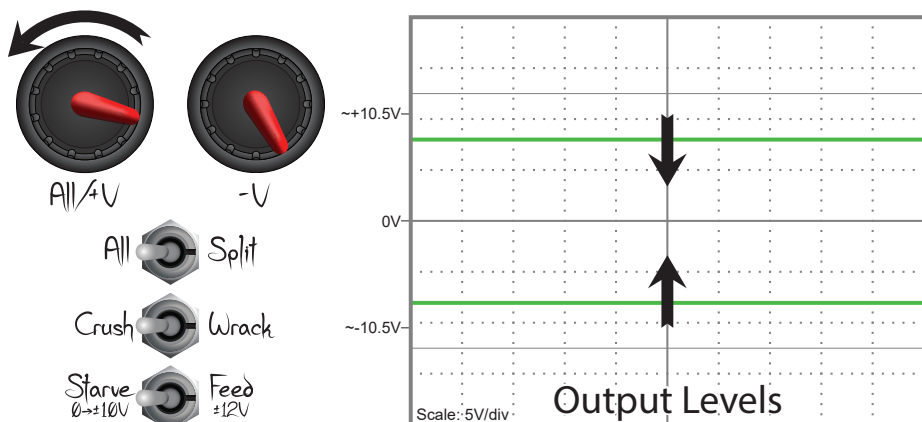

fig. 3: All/+V with All/Split toggle in All.
All/+V: With the **All/Split** toggle in *All*, this knob controls both +V and -V output. When the toggle is set to *Split*, it controls only the +V output. Clockwise (CW) rotation increases voltage4, counter clockwise (CCW) decreases voltage. (fig. 3)
Crush/Wrack: *Only functions when All/Split is set to All.* This selects how the outputs change relative to each other. In *Crush*, the -V mirrors the change of +V (fig. 3). In *Wrack*, the -V output moves inversely with +V. (figs. 6-8)